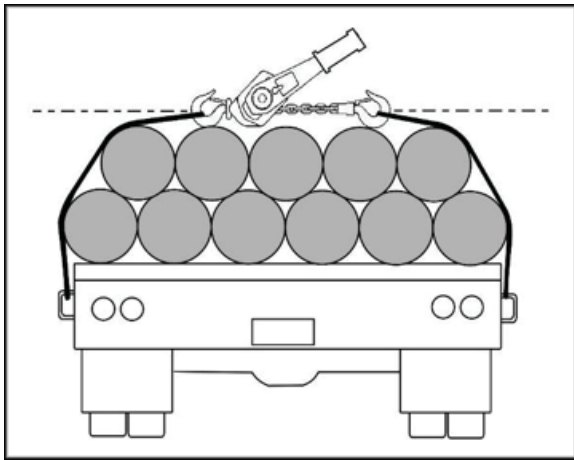

Figure 5
- When connecting to a wire rope sling, the lever hoist must be applied along a straight line parallel to the surface on which it is resting. See Figure 5.